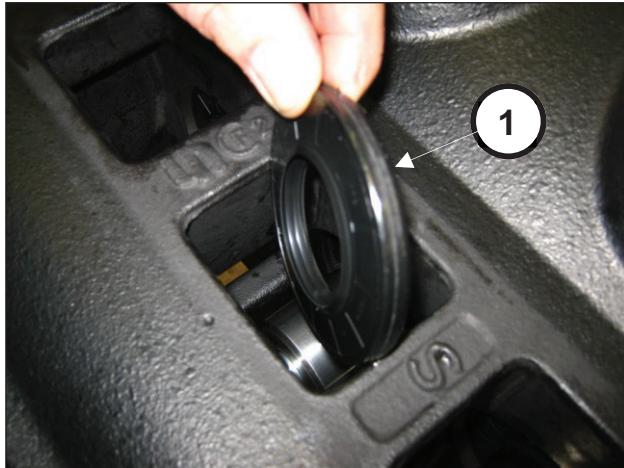

Fig. 38
Remove the tool and remove the oil seal (pos. ①, Fig. 38).